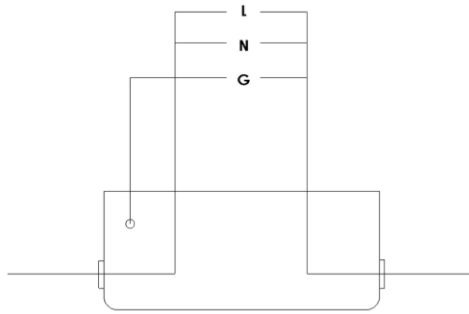

Figure 14: Main Service Connections
5. Connect the main service to the pig tail in the junction box as shown in Figure 14.